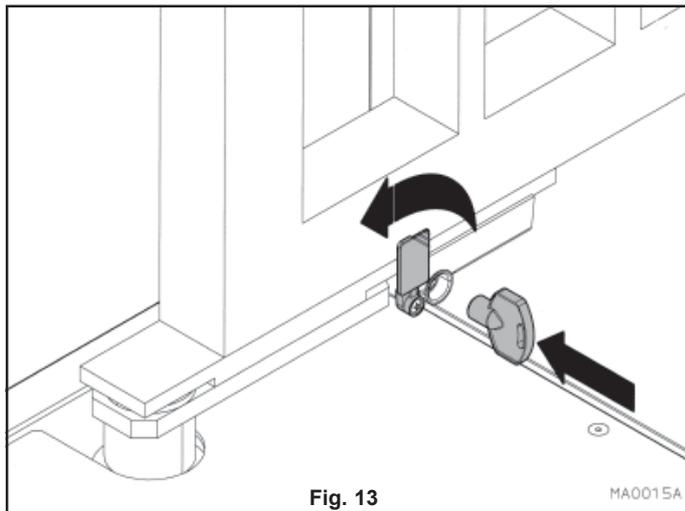

Fig. 13
- a) Thread the inner stop plate (1 fig. 12) on to the threaded pin (2 fig. 12) of the lever block oriented as indicated in fig. 13 and fasten using the nut supplied.
- Tirare leggermente e girare verso l'alto il tappo di protezione del perno di sblocco (fig. 13).
- Pull slightly and turn the release pin cap upwards (fig. 13).
- Ziehen Sie den Schutzstopfen des Entriegelungsbolzens leicht nach oben (Abb. 13).